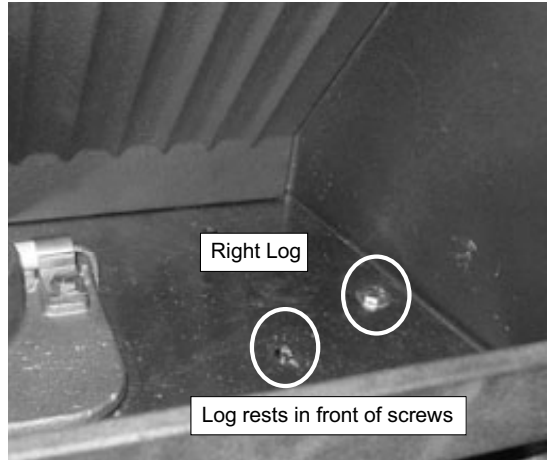

Figure 21.3
2. Place the right log in front of the 2 screw heads in the firebox. **Figures 21.3 & 21.4.**